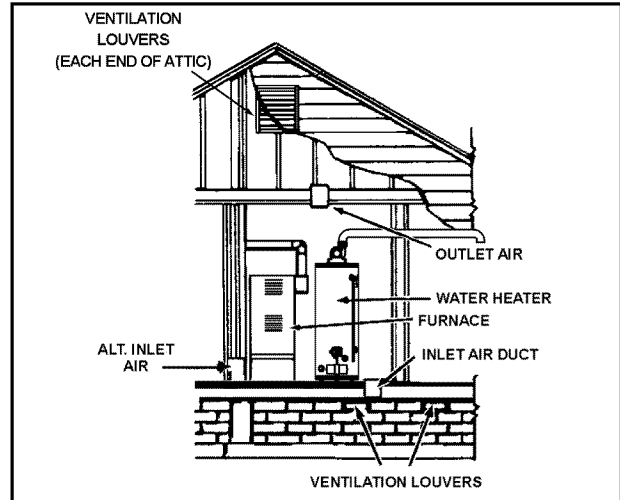

Figure 16
1. When directly communicating with the outdoors, each opening shall have a minimum free area of 1 square inch per 4,000 Btu/hr (5.5cm2/kW) of total input rating of all equipment in the enclosure (see Figure 16).